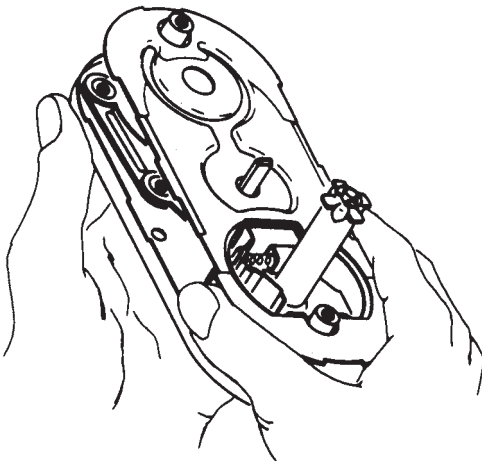

Figure 13.71 Changing hand, Step 2.
2. Lift off the mounting-plate cover (Fig. 13.71).